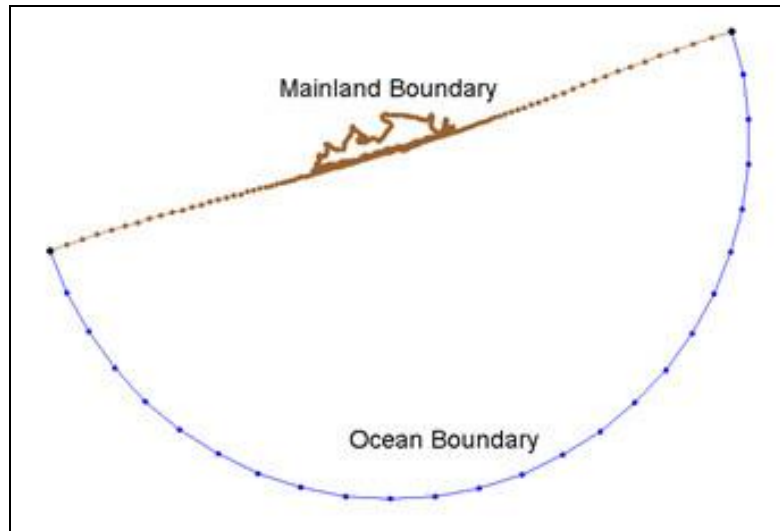

Figure 1 Feature arcs after boundary types have been assigned
2. Double-click the arc representing the ocean boundary, shown in Figure 1. The *ADCIRC Arc / Nodestring Attributes* dialog will appear.